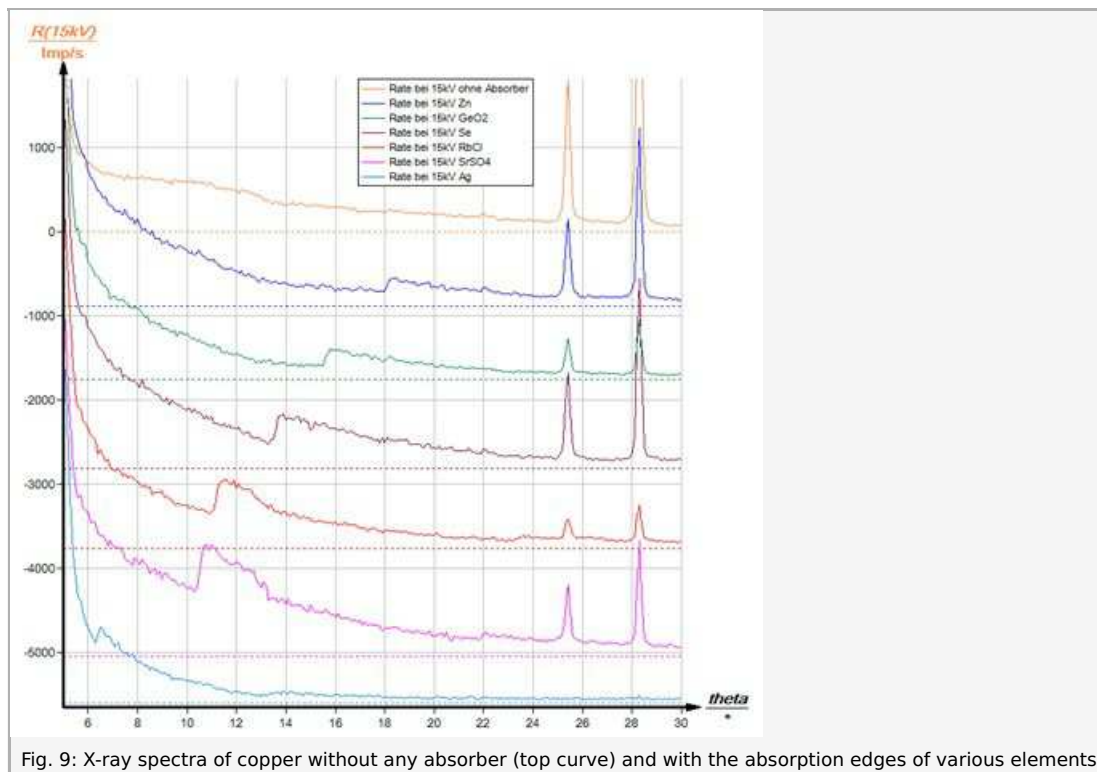

Fig. 9: X-ray spectra of copper without any absorber (top curve) and with the absorption edges of various elements
Table 1 shows the ϑ values of the absorption edges of various absorbers that were taken from Figure 9. Equation (6) was used to calculate the energy values E_K of the associated K shells. For comparison, the corresponding literature values are also provided.
Figure 9 shows the intensity I of the copper X-radiation as a function of the Bragg angle ϑ up to the characteristic $K\beta$ line. The top curve shows the spectrum without any absorber. All of the other curves were recorded with an additional absorber sample. The higher atomic number of the absorber is, the more the absorption edge is shifted towards smaller glancing angles.